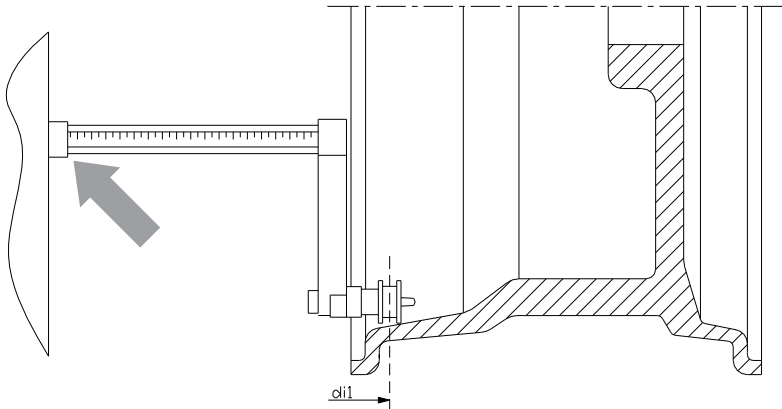

Figure F3.5 - Manual Acquisition of the internal plane distance in the ALS2 Programme Type
6. Extract the distance sensor and place it on the plane chosen for the external weight as shown in Figure F3.5;